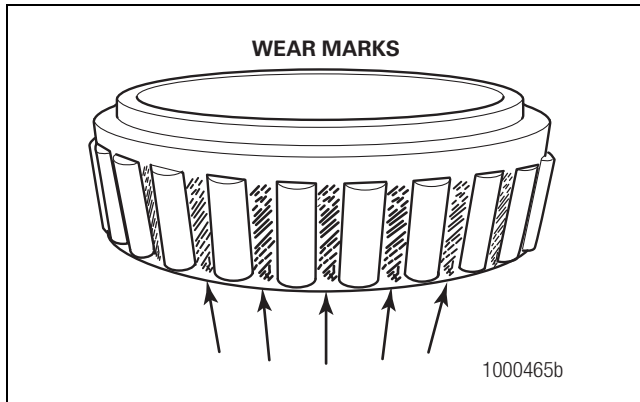

Figure 5.9
- There are bright wear marks on the outer surface of the roller cage. Figure 5.9.